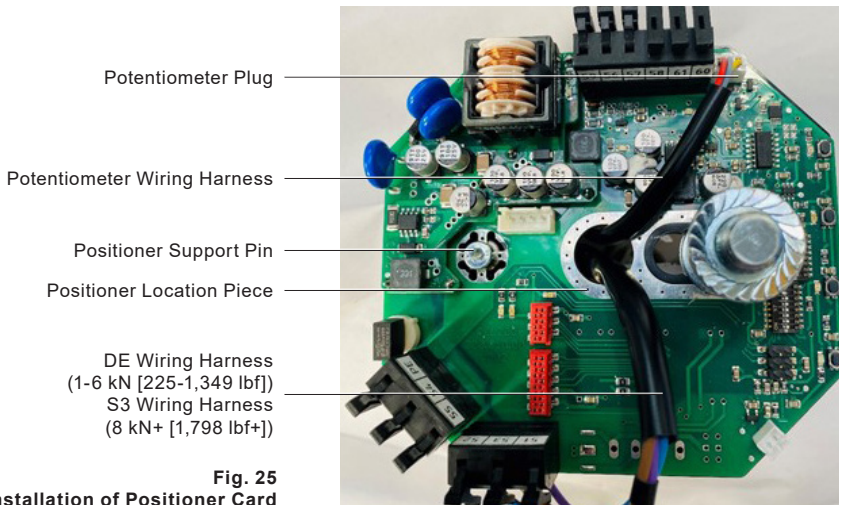
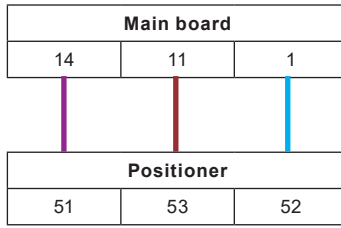
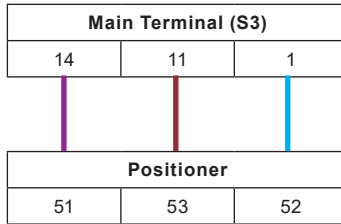

Fig. 25
Fig. 26 Positioner Installation Terminal Diagram (1-6 kN [225-1,349 lbf])
Fig. 27 Positioner Installation Terminal Diagram (8 kN+ [1,798 lbf+])
- 1-6 kN (225-1,349 lbf): Connect the potentiometer plug to the potentiometer socket on the positioner card referring to Figure 25 "Installation of Positioner Card" for product orientation. The potentiometer wiring harness should be fed through the center of the positioner card as shown
- 1-6 kN (225-1,349 lbf): Connect the DE wiring harness (orientation shown in Figure 25) as indicated in Figure 26 "Positioner Installation Terminal Diagram (1-6 kN [225-1,349 lbf])"
- 8 kN+ (1,798 lbf+): Connect the cores of the potentiometer wiring harness to the main terminal rail (Figure 27), and connect the potentiometer plug to the potentiometer socket on the positioner card referring to Figure 25 "Installation of Positioner Card" for product orientation. The potentiometer wiring harness should be fed through the center of the positioner card as shown
- 8 kN+ (1,798 lbf+): Connect the DE wiring harness as indicated in Figure 27 "Positioner Installation Terminal Diagram (8 kN+ [1,798 lbf+])"